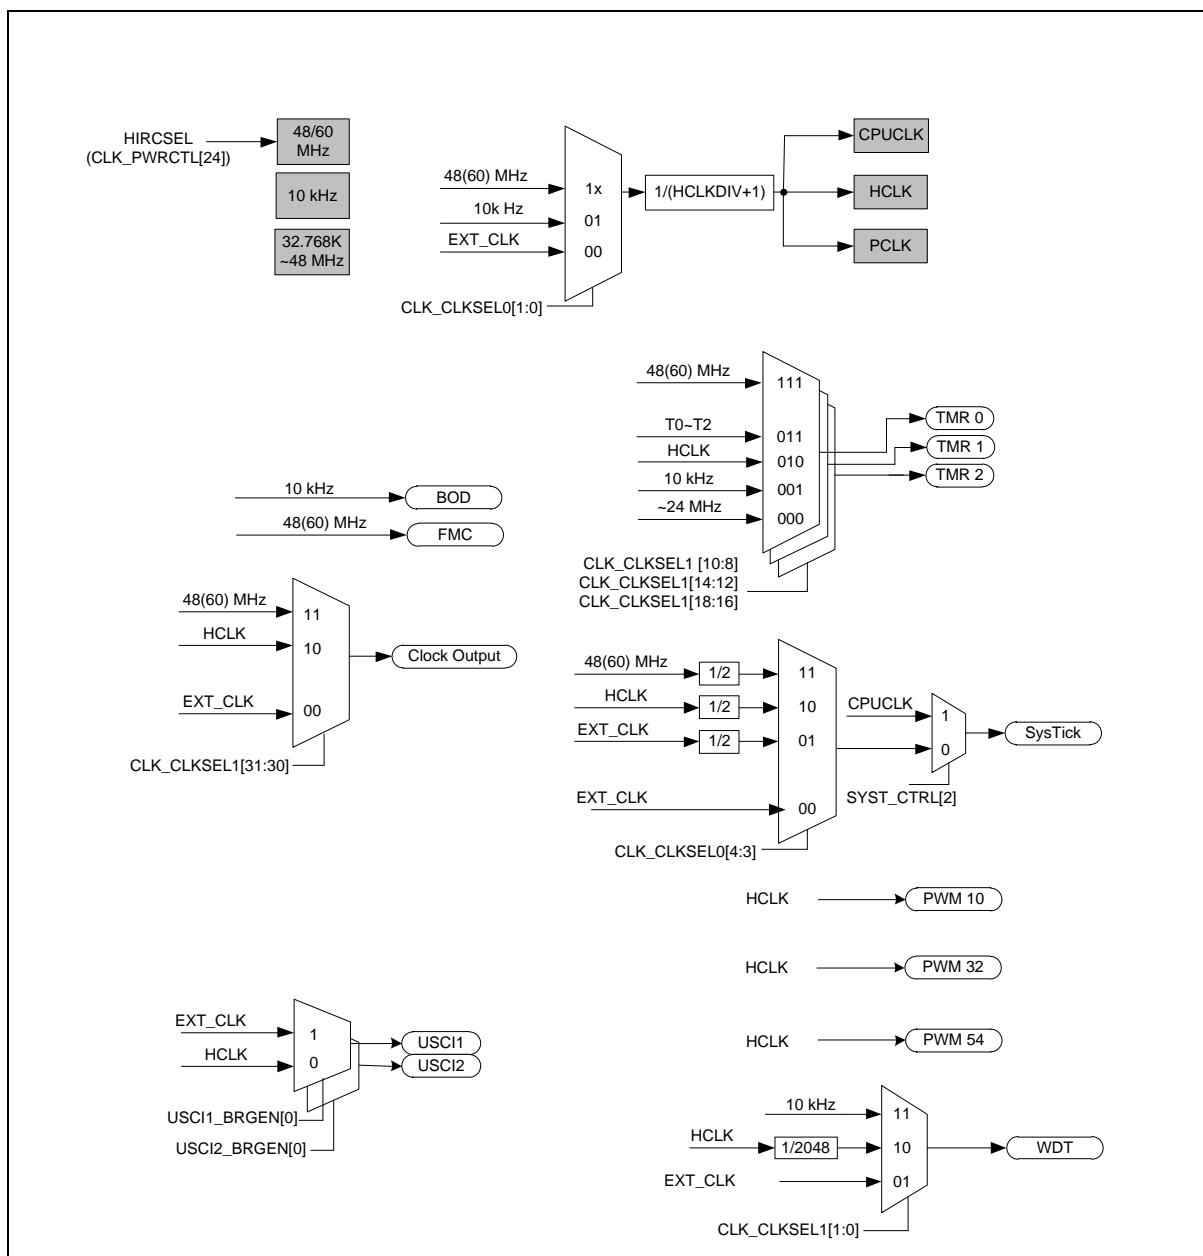

Figure 6.3-1 Clock Generator Global View Diagram
The clock controller generates clocks for the whole chip, including system clocks and all peripheral clocks. The clock controller also implements the power control function with the individual clock ON/OFF control, clock source selection and clock divider. The chip enters Power-down mode when the Cortex®-M0 core executes the WFI instruction only if the PDEN (CLK\_PWRCTL[7]) bit set to 1. After that, chip enters Power-down mode and waits for wake-up interrupt source triggered to exit Power-down mode. In Power-down mode, the clock controller turns off the external clock input (EXT\_CLK) and 48(60) MHz internal high speed RC oscillator (HIRC) to reduce the overall system power consumption. Figure 6.3-1 shows the clock generator and the overview of the clock source control.